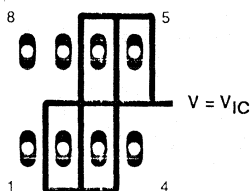
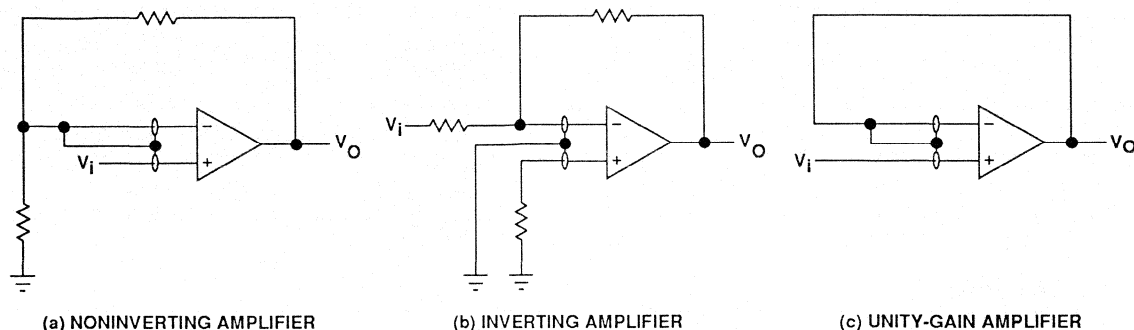

Figure 33. Isolation Metal Around Device Inputs
Figure 37. Guard Ring Schemes
1. Isolate the device from other potential leakage sources. Use a grounded shield around and between the device inputs (see Figure 33). Leakages that would otherwise flow to the inputs will be shunted away.
Because of the extremely high input impedance and resulting low-bias current requirements, the TLV2342 is well suited for low-level signal processing; however, leakage currents on printed circuit boards and sockets can easily exceed bias-current requirements and cause a degradation in device performance. It is good practice to include guard rings around inputs (similar to those of Figure 33 in the Parameter Measurement Information section). These guards should be driven from a low-impedance source at the same voltage level as the common-mode input (see Figure 37).